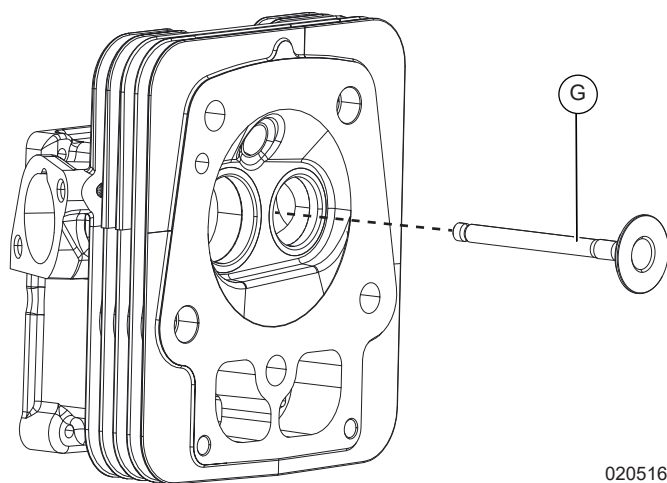

Figure 6-35. Remove Exhaust Valve
5. See Figure 6-35. Repeat steps 1 – 4 to remove exhaust valve (G) from cylinder head assembly.